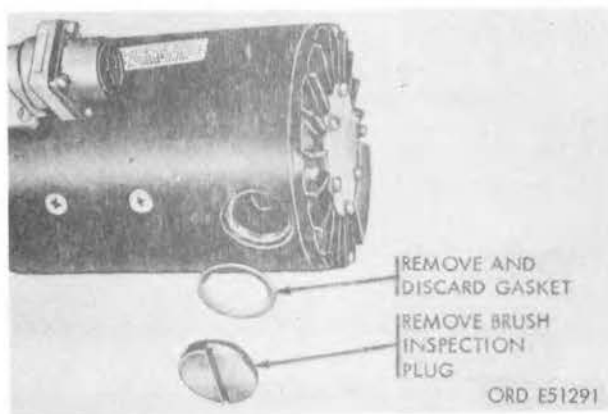

FIGURE 9. REMOVING BRUSH INSPECTION PLUG AND GASKET.
b. Refer to figure 9 and remove brush inspection plug and gasket.